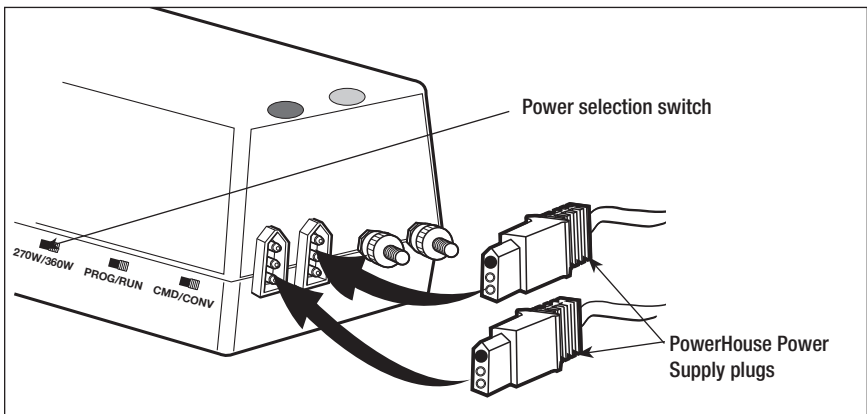

Figure 5. PowerMaster Installation
1. Insert the PowerHouse power supply's connector plug into the 360W PowerMaster's connector jacks. Refer to figure 5 below.